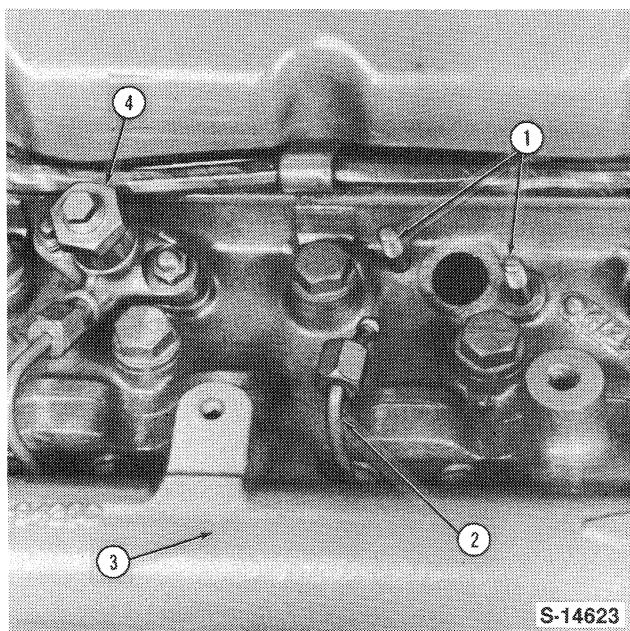

Figure 5
14. On diesel engines, hold the leak-off pipe at each injector and carefully disconnect the fuel injector leakoff pipes. Clean the area surrounding the fuel injectors then remove the bolts and carefully withdraw the fuel injectors and washers, Figure 5.